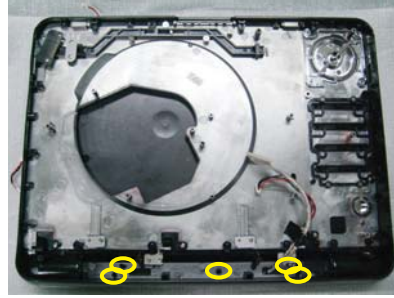

Fig.12
12. Remove screws to remove hinge adorn panel as Fig.12.